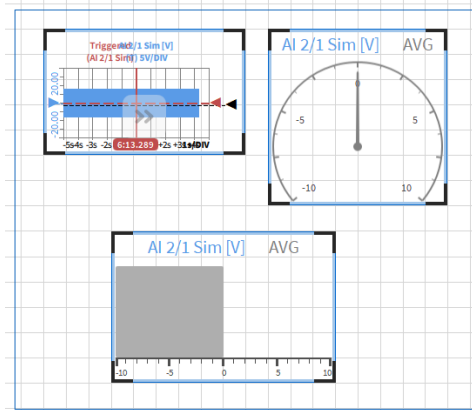

Figure 6-2: Selection of several Instruments in the Design Mode
- Several Instruments on the screen can be selected by drawing a selection rectangular with the left mouse button like it is known from Windows Explorer or similar (see Figure 6-2) or by keeping **CTRL+SHIFT** pressed while selecting the Instruments. All Instruments on a measurement screen can be selected by pressing **CTRL+A**.